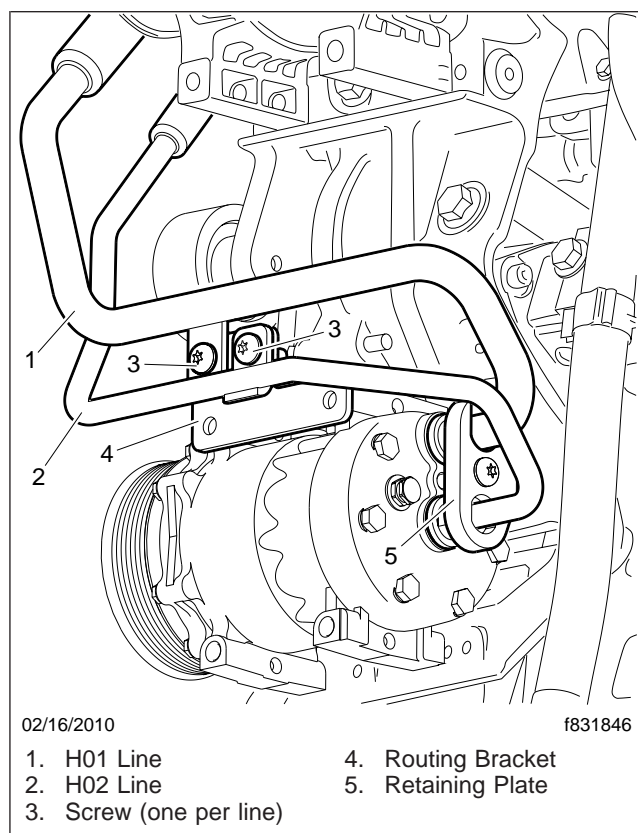

Fig. 1, Bracket Installation
A new routing bracket and hardware are required to upgrade to the new lines. Figure 1 shows the bracket installation. Table 1 lists the routing bracket information.
2. Install the new bracket on the compressor mounting bosses, as shown in Fig. 1. Tighten the fasteners 15 to 19 lbf-ft (21 to 26 N·m).